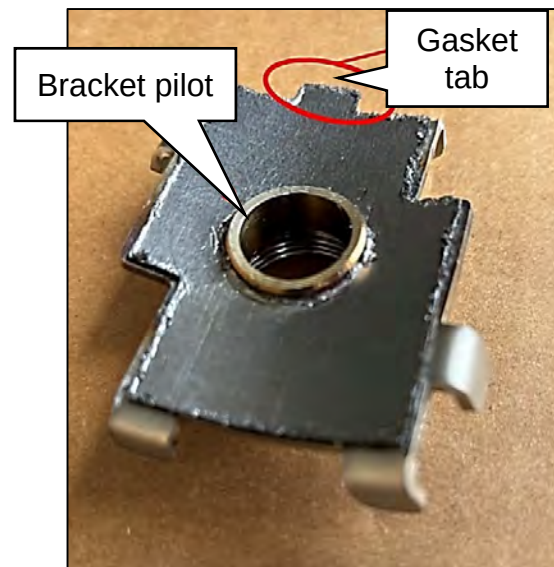

Figure 26
15. Assemble the precut exhaust gasket (20691-EZ41A) on the PM Sensor bracket (22795-EZ41A) as shown in Figure 26.